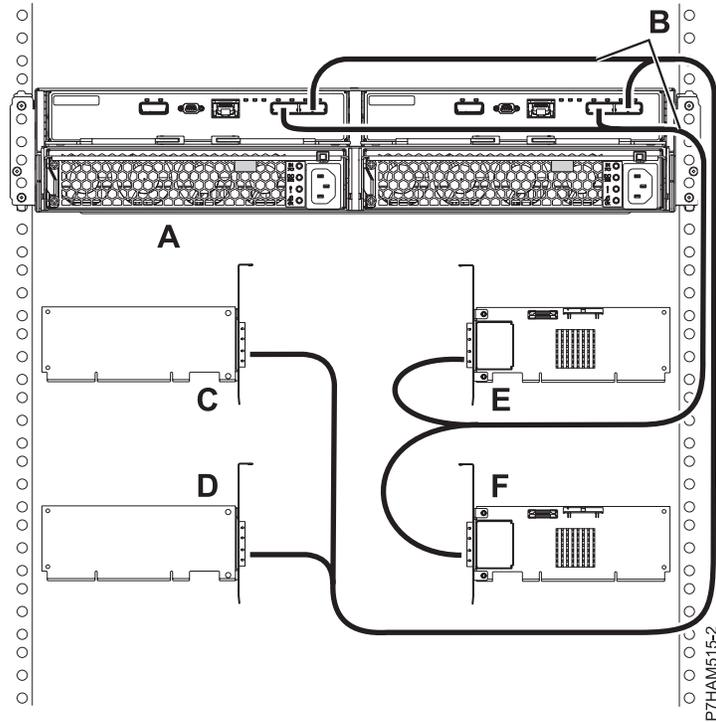

Figure 37. Mode 4 connection of one 58/87 disk drive enclosure by using X cables to four independent SAS adapters
- q. Perform the mode 4 connection of one 58/87 disk drive enclosure (A) by using X cables (B) to four independent SAS adapters as shown in Figure 37 on page 33.